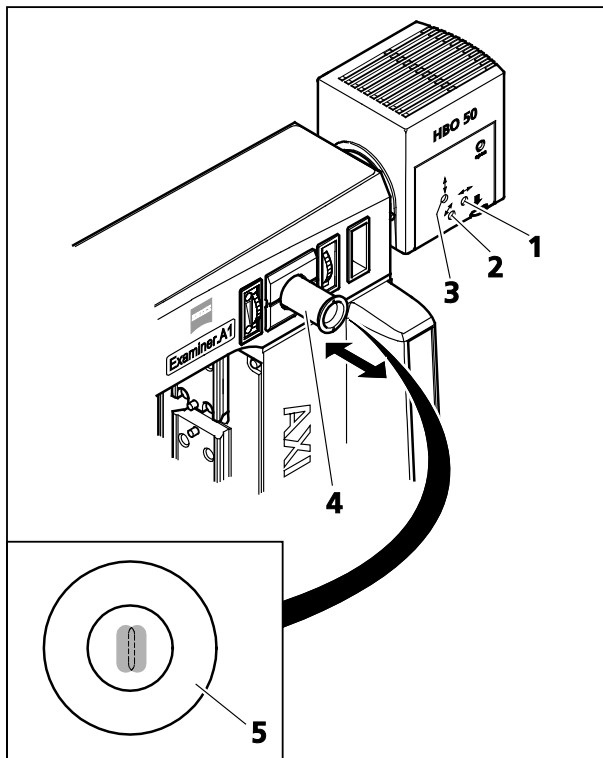

Figure 3-24 Adjusting the HBO 50
- Pull out the adjusting aid (Figure 3-24/4). The adjusting aid's observation window (Figure 3-24/5) shows the electric arc of the burner (brighter) and its mirror image (somewhat darker).
- Turn the adjusting screw (Figure 3-24/1) to set the burner in axial direction to the mirror, ensuring that both electric arcs appear in the same size in the adjusting aid observation window (see Figure 3-24/5).
- Turn the adjusting screws for height adjustment (Figure 3-24/3) or lateral adjustment (Figure 3-24/2) to position electric arc and mirror image in a centered location in parallel to one another within the adjusting circle in the observation window (Figure 3-24/5). Electric arc and mirror image should not be superimposed one on top of the other.
(2) Axio Examiner.D1/.Z1 and Axio Examiner.A1 without adjusting aid:
- Turn the adjusting screw (Figure 3-24/1) to set the burner in axial direction to the mirror, ensuring that both electric arcs appear in the same size (see Figure 3-24/5).